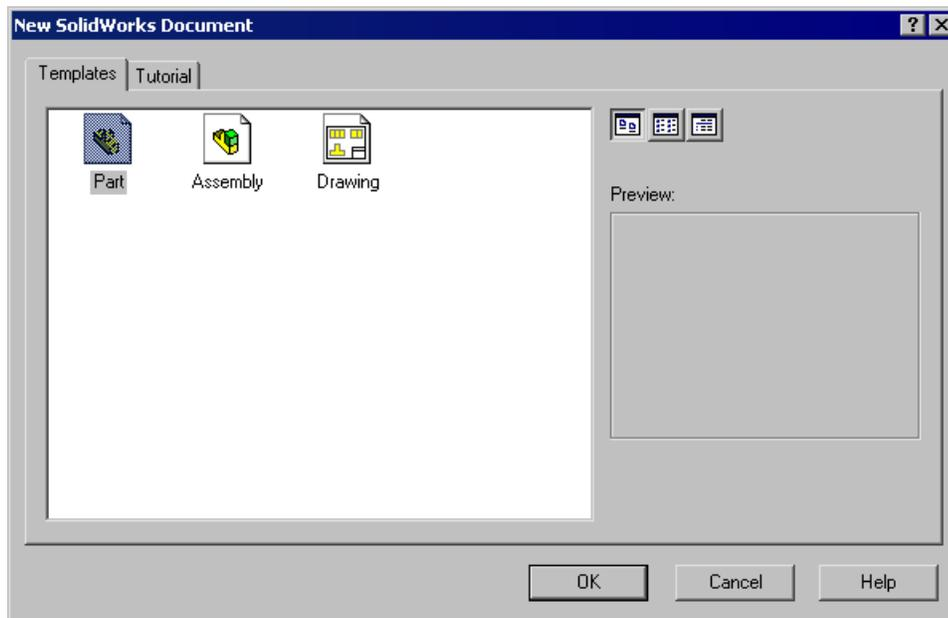

Figure 1-46 New SolidWorks Document dialog box
4. Select the **Part** option and then choose the **OK** button from the **New SolidWorks Document** dialog box as shown in Figure 1-46.